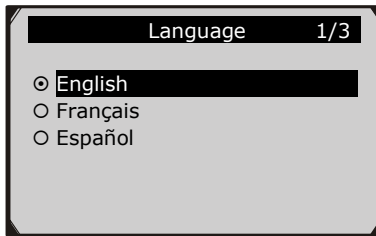

Figure 3.3
- 2) Use the **SCROLL** button to select the desired language and press the **ENTER/Exit R** button to save your selection and return to previous screen. We provide three language options currently. (Figure 3.3)